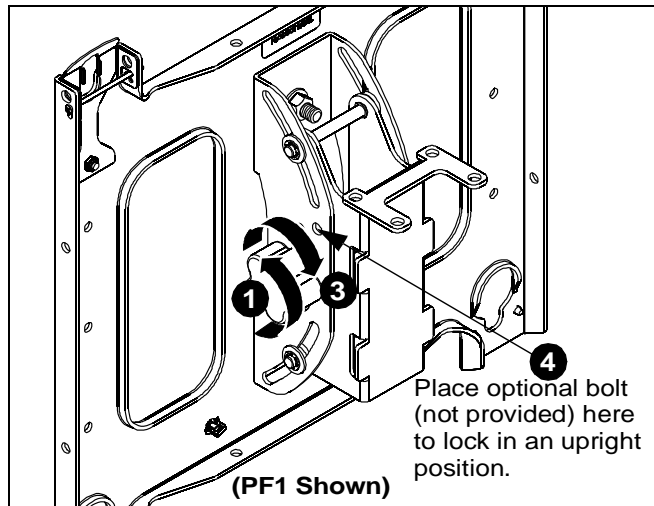

Figure 14
1. Turn knob counterclockwise on back of head assembly to loosen the tilt. (See Figure 14)
3. Turn knob clockwise to tighten display on head assembly. (See Figure 14)
4. If leaving the display in a straight upright position, it is recommended that a bolt (not provided) be placed through the head assembly (See Figure 14) to lock the display into the upright position.